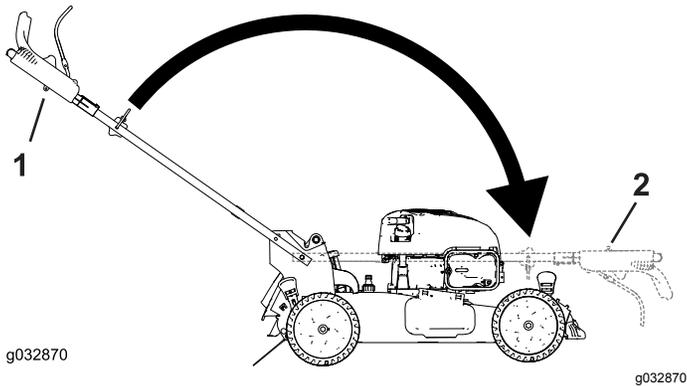

Figure 24
1. Handle knob (2) 2. Carriage bolt (2)
3. Fold the handle by rotating it forward (Figure 24).